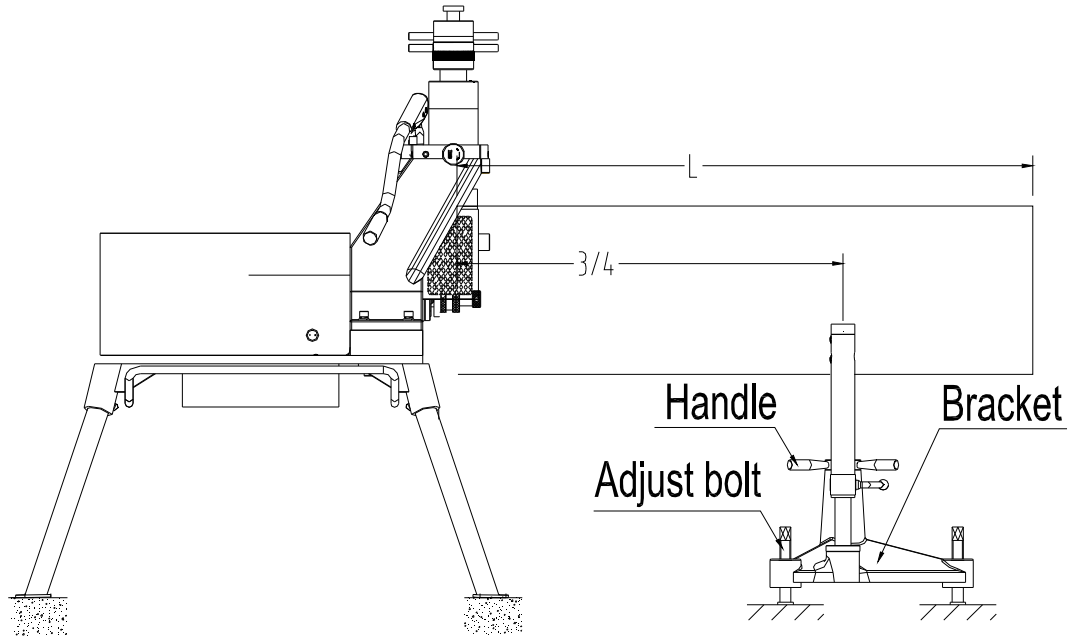

Fig .3
1. According to **Fig.3** install 4 brackets into 4 holes of base separately in an upward direction and then tighten.
3. Place the steel tubes on the knurl wheel and bracket. Turn the handle (**see Fig. 3**) to vary the height of bracket, so that the steel tube and spindle are parallel. The bracket shall be placed at a position equal to $\frac{3}{4}$ of the length of whole tube.
- ①. Before fix bracket, make sure adjusting is regular operation.
- ②. Adjust the level and verticality of the chassis and bracket.
- ③. Fixing of chassis, fix the fishhook dilatant bolt on the ground under the chassis, Using adjusting bolt to connect chassis and fishhook bolt, then turn the adjusting Bolt to strain.
- ④. Fixing of bracket: fix the 3 feet of bracket on the ground by dilatant bolt.